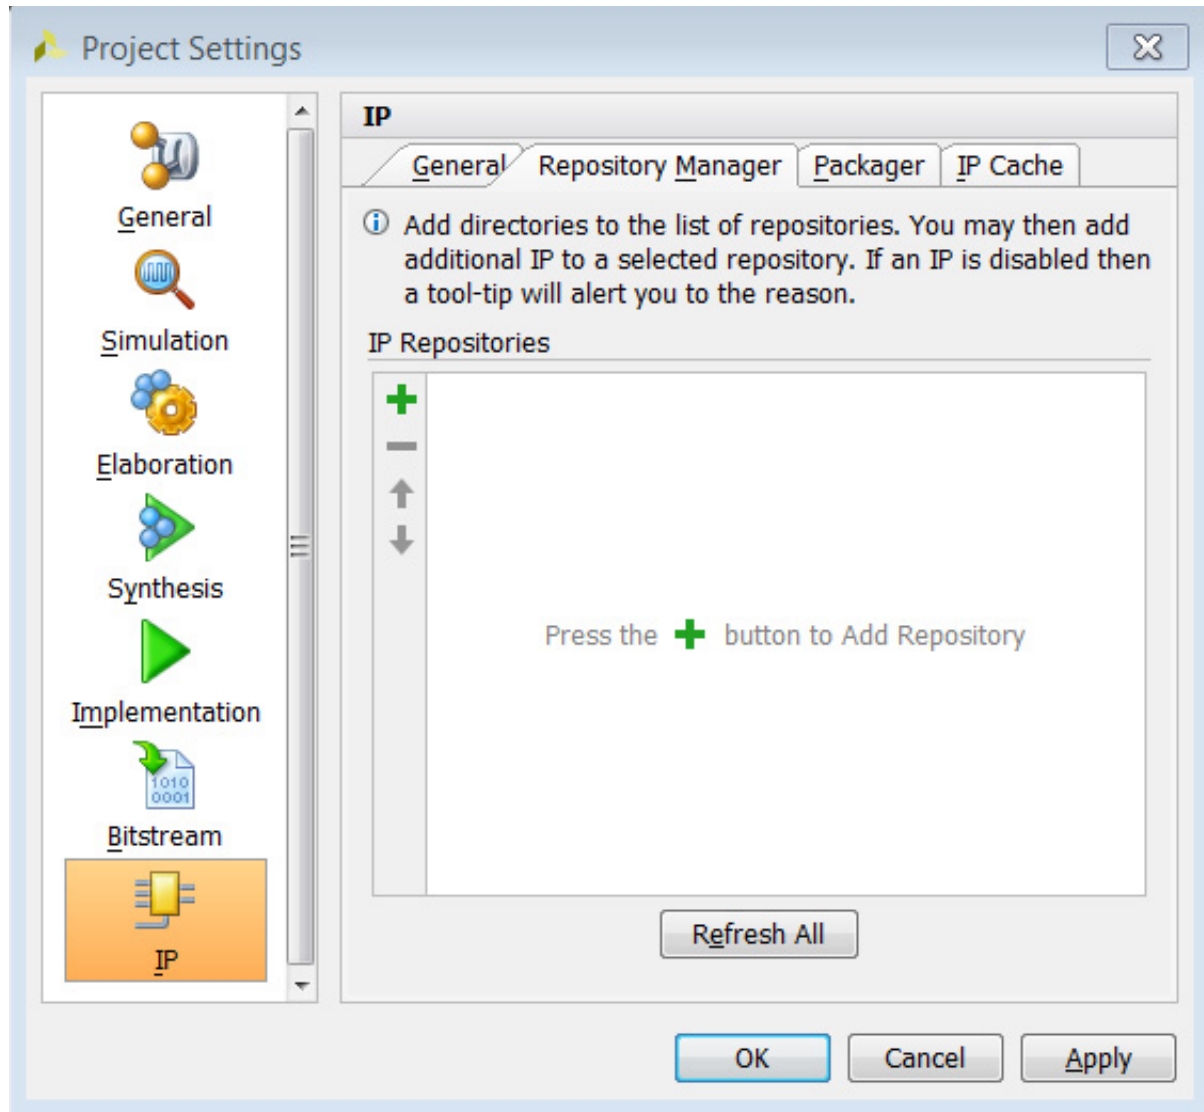

Figure 2-31: IP Project Settings: Repository Manager
- b. In the **IP in Selected Repository** section, shown in Figure 2-31, page 48: